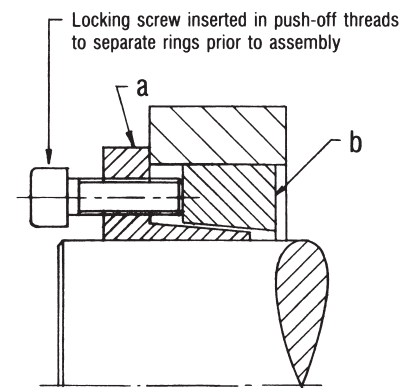

Fig. 3
2. Back-off all locking screws by at least two turns. Take out 3 or 4 equally spaced screws and insert them into adjacent push-off threads after first removing the protective plastic caps (if included). Turn them in hand tight until they make contact with part (b), see Fig. 3. This will keep parts (a) and (b) spaced apart for easy insertion of Locking Assembly into the hub bore, as illustrated in Fig. 3.